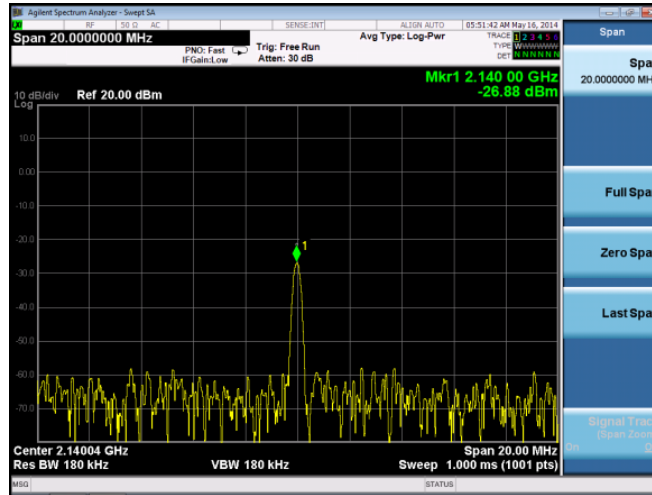

Figure 13 Basic TX testing using DC offset resulting in LO leakage
When the transmitter is configured as shown in section 5.2, the TX1_A output (socket X1) can be connected to a spectrum analyzer (SA). With the SA you can now observe the results of this basic operational test *Figure 13*. The test is looking at the DC offset from the un-programmed data DAC as LO leakage and the example shown below is measuring a value of -26.8 dBm.